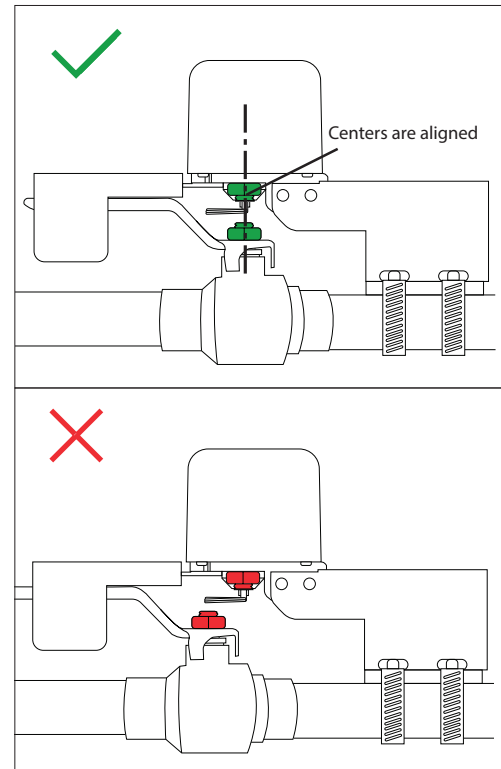

Figure 5
- Position the bolt of the Water Main Shut-Off DIRECTLY above the bolt of the ball valve, and tighten the hose clamps until the Shut-Off is completely secure (fig 5.)
**It is absolutely critical that the axes for both the valve and Water Main Shut-Off are aligned. Improper installation will result in unreliable performance. Examine Figure 5 for more details and please visit [www.domeha.com/support](http://www.domeha.com/support) if you require further assistance.**